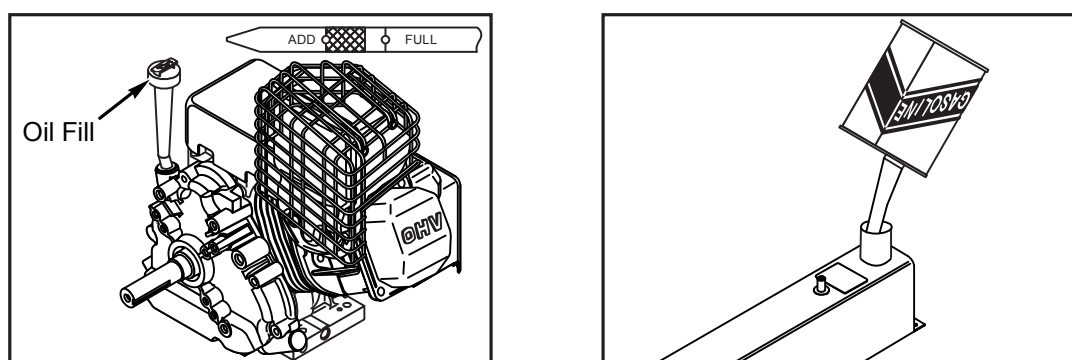

Figure 5- Fill engine Oil and Gasoline Tank
3. Check the oil in the engine. If necessary, add oil until the level reaches the mark on the dipstick. The engine manual supplied with the fog generator will advise the correct oil to use. Reference Figure 5.
5. Fill the gasoline tank. Reference Figure 5.